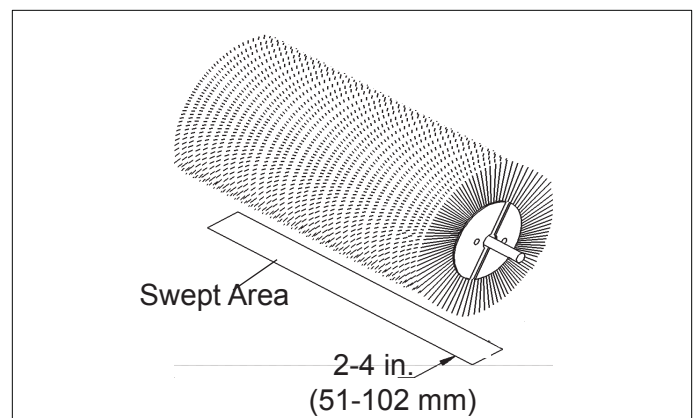

Figure 3
4. Raise the sweeper and back away; switch off the engine and remove the key. The brush pattern left in the dust should be 2-4 inches (51-102 mm) wide, running the length of the brush. (Compare the swept area with figure 3.)